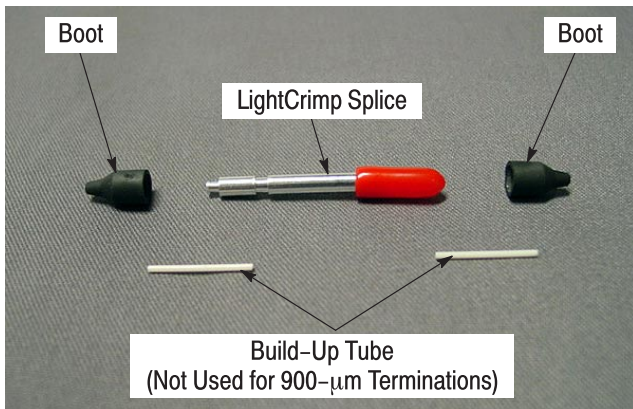

Figure 5
3. Identify the components. See Figure 5.